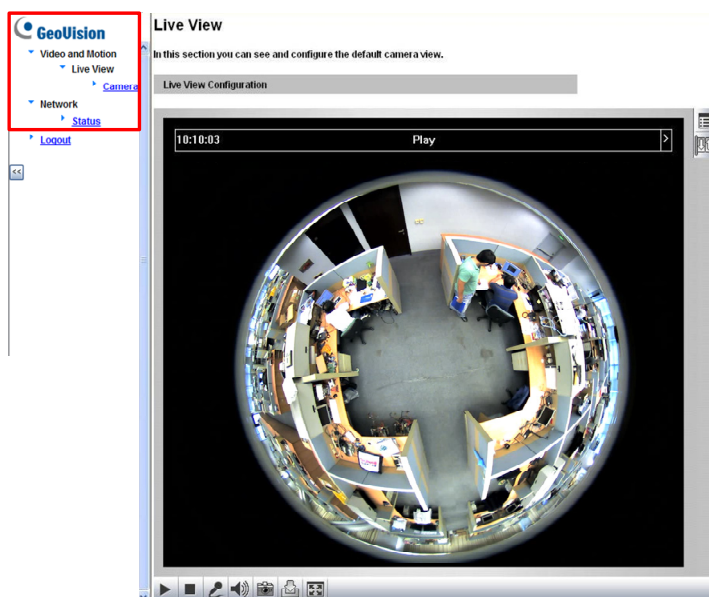

Figure 3-2
4. A video image, similar to the example in Figure 3-2, is now displayed in your browser.